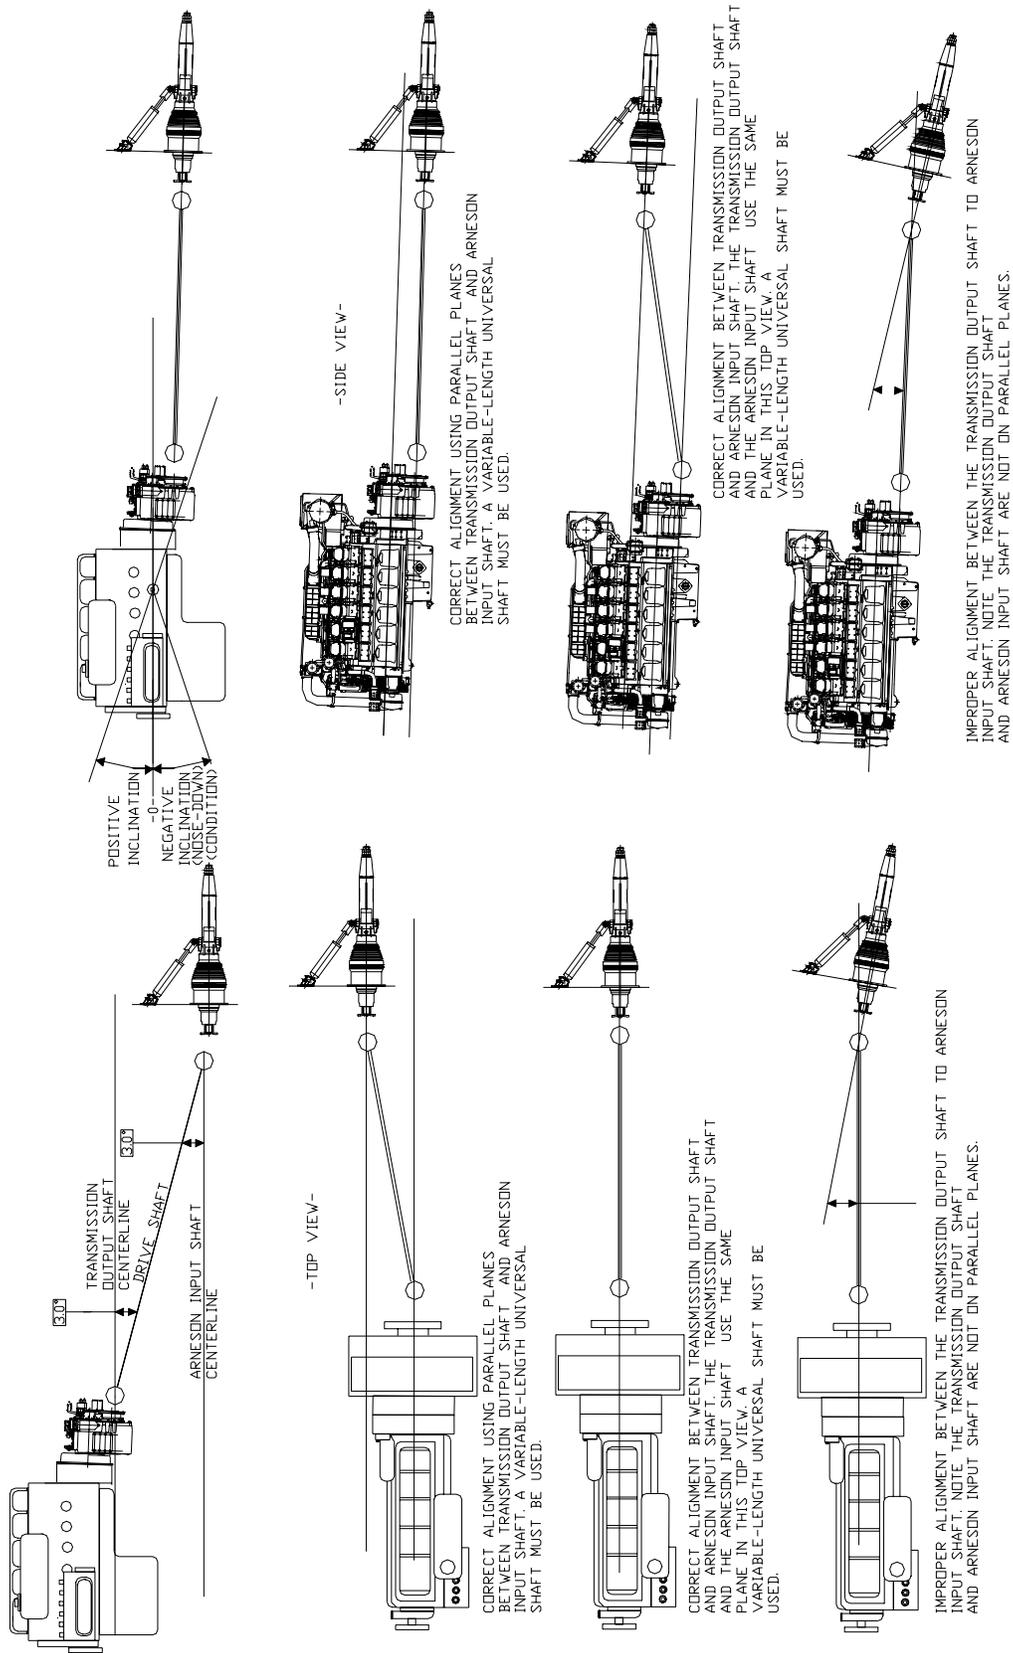

Figure 20. Examples of Proper and Improper Alignment
3. Examples of proper and improper alignment are shown in Figure 20.